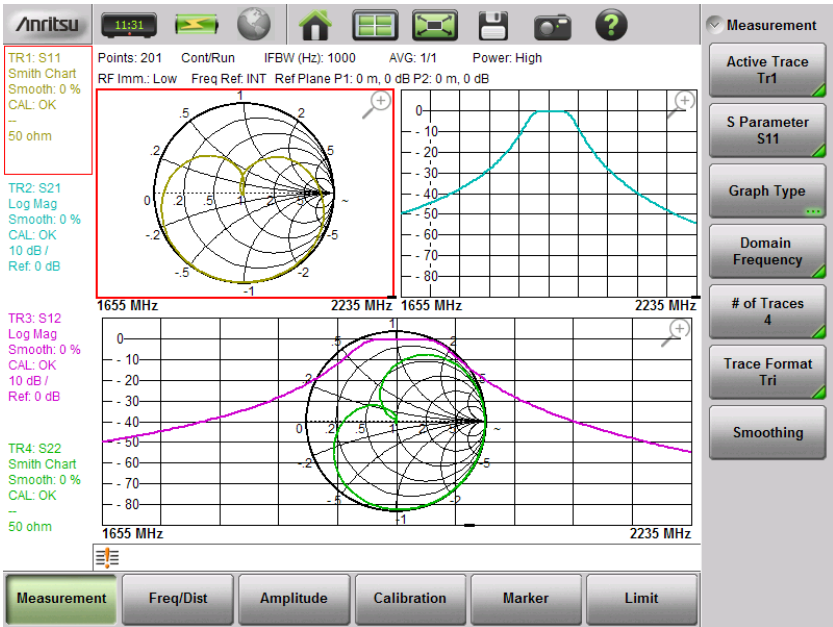

Figure 6-6. Format = Tri, Traces = 4
4. Next change Trace Format to Tri. Note how the 4 traces are assigned on this display. TR3 and TR4 are now overlaid in the bottom half of the display area. Refer to Figure 6-6.